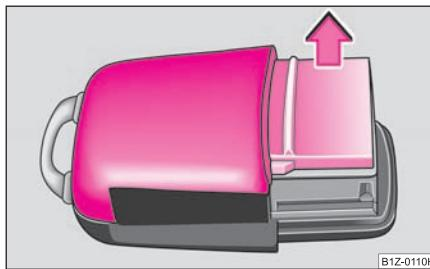

Fig. 30 Cover of the transmitter housing
- Take off the cover of the transmitter housing ⇒ fig. 30 in direction of arrow.